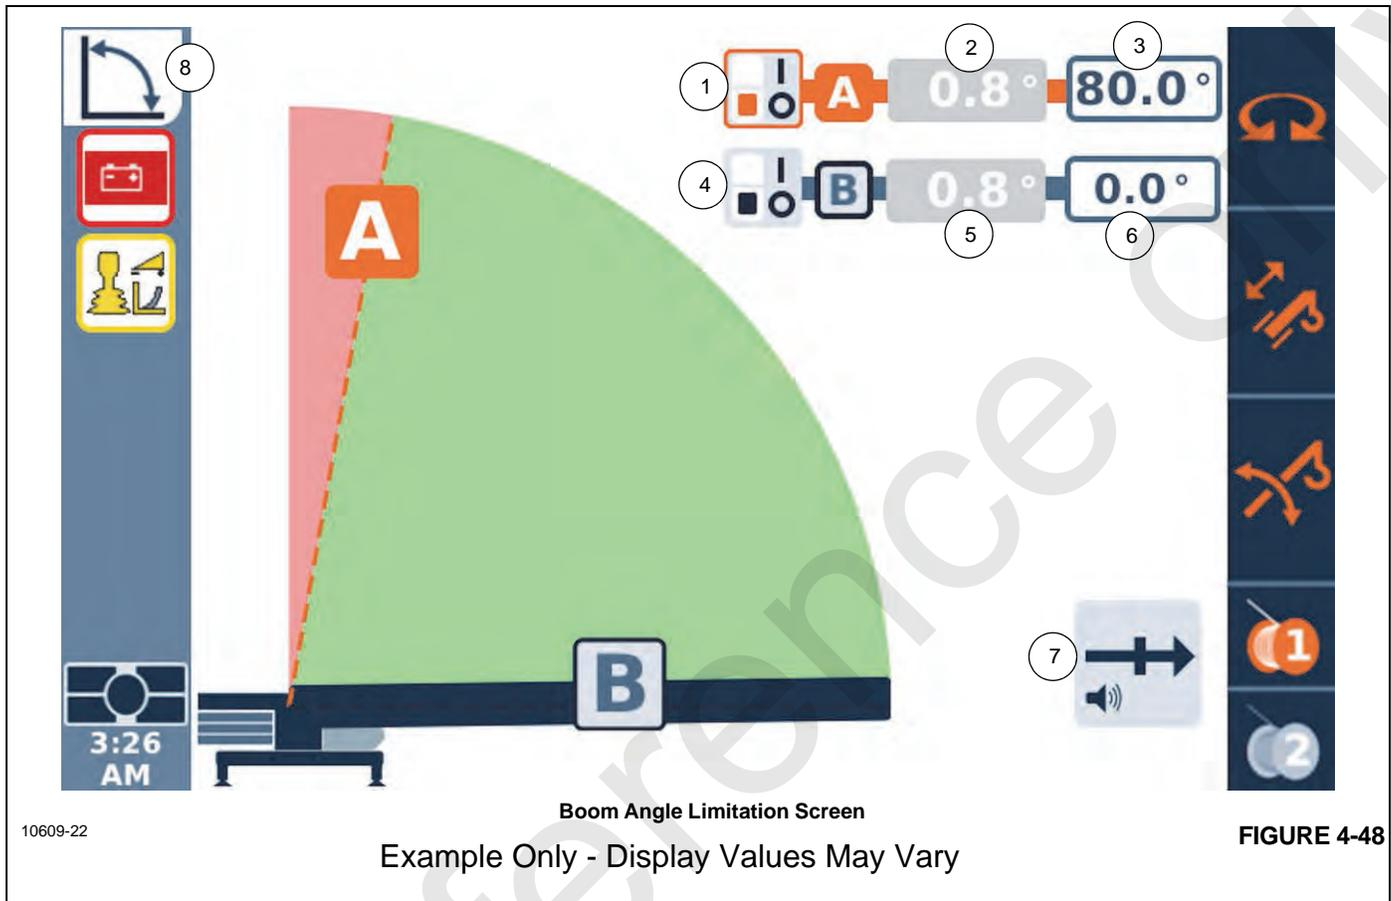

FIGURE 4-48
If the Boom Angle Limitation Menu is selected from the Main Menu of WRL Limitations (3, Figure 4-46), then the Boom Angle Limitation Screen will be shown (Figure 4-48).
Using the Left Arrow and Right Arrow Function keys on the Navigation Control Pad (4, Figure 4-6) or the Jog Dial (5, Figure 4-7) changes the Icon highlighted on the screen. As the arrow keys are pressed, the highlight will move between the Icons, with the color orange typically meaning that the Icon is selected and can be affected by subsequent actions. In Figure 4-48, you will see that the highlighted Icon in orange for the Enable/Disable Switch Symbol for the maximum boom angle is selected since it has the orange color highlighting. Table 4-2 lists the WRL Limitation Screen Symbols.
3. Select the Boom Angle Limitation Menu Screen (3, Figure 4-46). **NOTE:** The Boom Up Limitation Screen (8, Figure 4-48) Icon is shown on the top left side of the ODM screen.
4. Move the Boom to the desired position. This position will indicate the boom angle current value A (2) position.
5. Enable the Limitation by using the Jog Dial (5, Figure 4-7), or the Arrow Keys (4, Figure 4-6) to move and select the Enable/Disable Switch Symbol ON/Off (1, Figure 4-48). **NOTE:** The Switch (1, Figure 4-48) is a toggle switch. Click OK (5, Figure 4-6), or the Jog Dial (5, Figure 4-7) to enable the switch.
6. Use the Jog Dial (5, Figure 4-7) or the Arrow Keys (4, Figure 4-6) and move to the Limitation Value (2, Figure 4-48). Click OK to set the current value Limitation A (2, Figure 4-48) position.
3. Select the Boom Angle Limitation Menu (3, Figure 4-46). **NOTE:** The Boom Angle Limitation Icon (8, Figure 4-48) is shown on the top left side of the ODM screen.
4. Move the Boom to the desired position. This position will indicate the boom angle current value B (5) position.
5. Enable the Lower Boom Limitation Angle by using the Jog Dial (5, Figure 4-7), or the Arrow Keys (4, Figure 4-6) to move and select the Enable/Disable Switch Symbol ON/Off (4, Figure 4-48). **NOTE:** The Switch (4, Figure 4-48) is a toggle switch. Click OK (5, Figure 4-6), or the Jog Dial (5, Figure 4-7) to enable the switch.
6. Use the Jog Dial (5, Figure 4-7), or the Arrow Keys (4, Figure 4-6) and move to the Limitation Value (5, Figure 4-48). Click OK to set the current value Lower Boom Angle Limitation B (5, Figure 4-48) position.
3. Select the Boom Angle Limitation Menu Screen (3, Figure 4-46). **NOTE:** The Boom Angle Limitation Icon (8, Figure 4-48) is shown on the top left side of the ODM screen.
4. Enable the limitation by using the Jog Dial (5, Figure 4-7) or the Arrow Keys (4, Figure 4-6) and move to the Enable/Disable Switch (1, Figure 4-48). **NOTE:** The Switch (1, Figure 4-48) is the Enable/Disable Switch and is a toggle switch. Click OK (5, Figure 4-6), or the Jog Dial (5, Figure 4-7) to set the switch.
5. Use the Jog Dial (5, Figure 4-7), or the Right Arrow Key (4, Figure 4-6) to move and select the Maximum Boom Angle (3, Figure 4-48), Limitation A. Enable the value entry by clicking on OK (5, Figure 4-6). Enter a value by using the Jog Dial (5, Figure 4-7) or the upper and lower arrow keys (4, Figure 4-6) to change the value (in tenths) to the desired boom angle value (3, Figure 4-48).
4. Enable the limitation by using the Jog Dial (5, Figure 4-7) or the Arrow Keys (4, Figure 4-6) and move to the Enable/Disable Switch (4, Figure 4-48). **NOTE:** The Switch (4, Figure 4-48) is the Enable/Disable Switch and is a toggle switch. Click OK (5, Figure 4-6), or the Jog Dial (5, Figure 4-7) to set the switch.
Angle Symbol (6, Figure 4-48), Limitation B. Enable the value entry by clicking on OK (5, Figure 4-6). Enter a value by using the Jog Dial (5, Figure 4-7) or the upper and lower arrow keys (4, Figure 4-6) to change the value (in tenths) to the desired boom angle value (6, Figure 4-48).
2. Use the Left Arrow and/or Right Arrow Function keys (4), (Figure 4-6) to highlight the Switch Enable/Disable Symbol (1, 4, Figure 4-48). Enable is “I” and Disable is “O”.